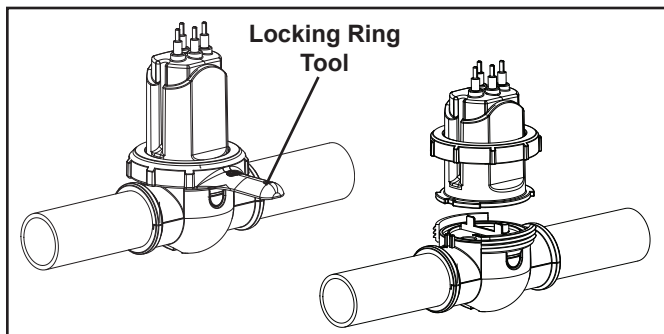

Figure 2. Removing the Cell
4. Remove the locking ring. If necessary use the locking ring tool (R0512600) (see Figure 2).
5. Remove the electrode and the o-ring (see Figure 2).